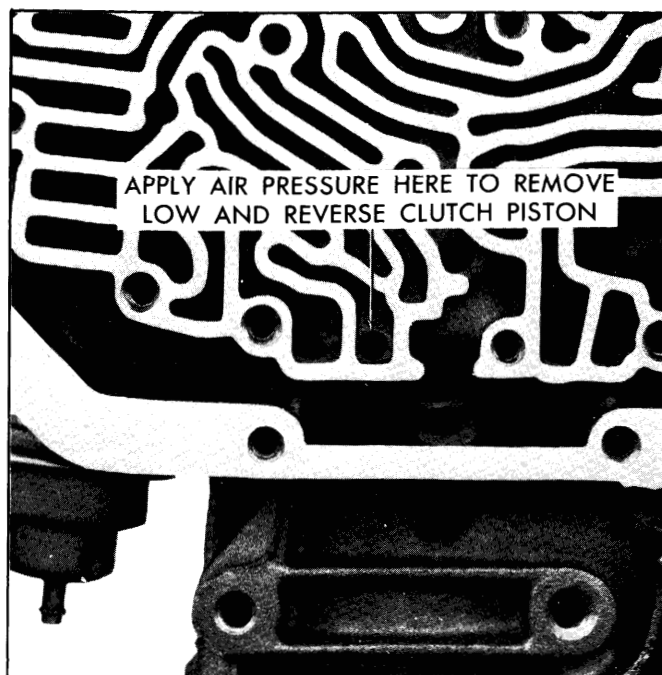

Fig. 7-53—Removing Low and Reverse Clutch Piston
22. Remove low and reverse clutch piston assembly by applying compressed air in passage shown on Fig. 7-53.